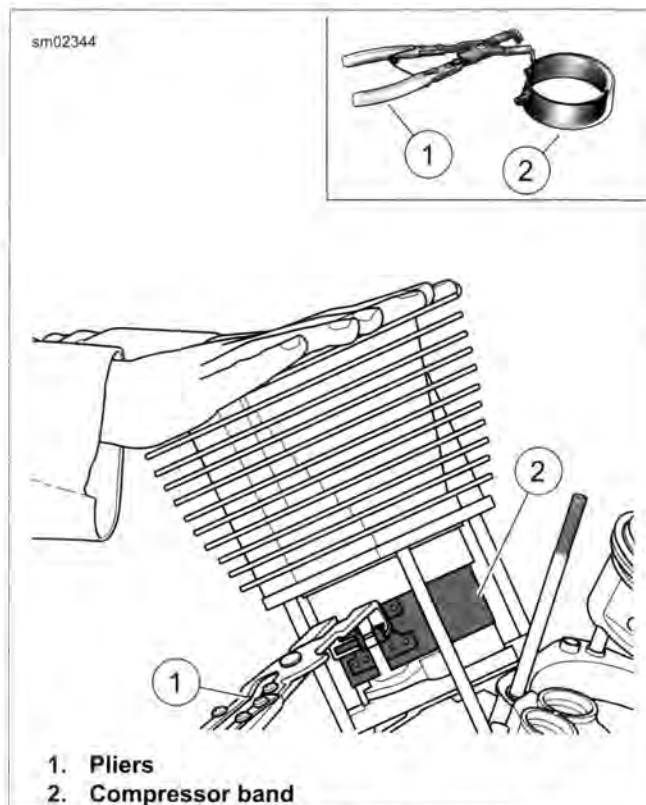
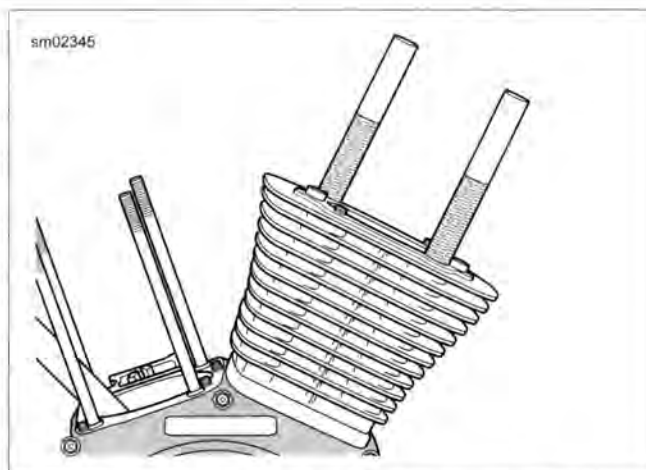

Figure 3-65. Piston Ring Compressor
Figure 3-66. Install Threaded Cylinders to Studs
7. See Figure 3-65. Install cylinder using PISTON RING COMPRESSOR (Part No. HD-96333-51F).
- a. Fit tabs on pliers (1) into slots of ring compressor band (2). The arrow stamped on the band indicates the side that faces up. The word "bottom" refers to the piston bottom.
10. See Figure 3-66. Install THREADED CYLINDERS (Part No. HD-95952-1) from CONNECTING ROD CLAMPING TOOL (Part No. HD-95952-33C) onto cylinder studs with the knurled side down.